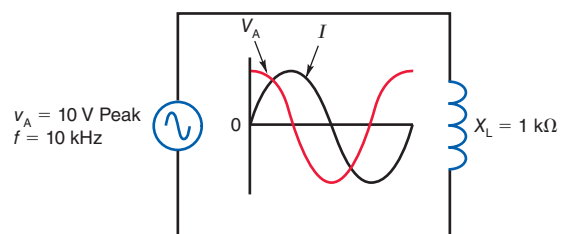

Figure 20-12
- 20.1 In Fig. 20-12, what is the
- 20.2** In Fig. 20-12, what is the value of the induced voltage, v_L , when i_L is at
- 20.3** In Fig. 20-12, draw the phasors representing v_L and i_L using